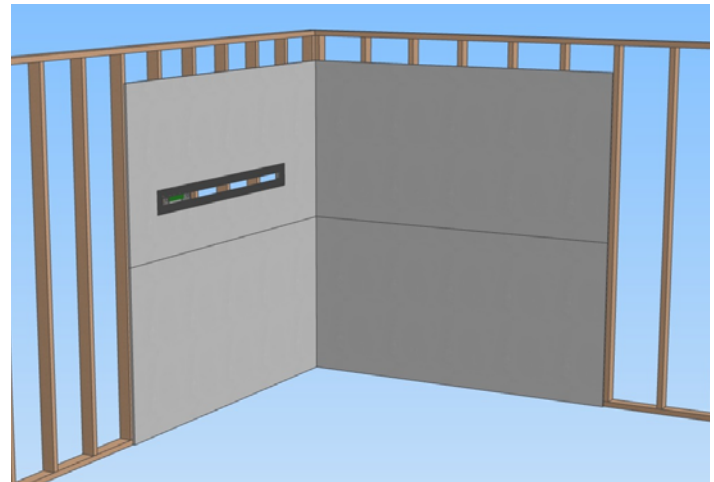

figure 2 - Test fit fixture
5. Insert fixture housing into wall opening. *fig. 2*